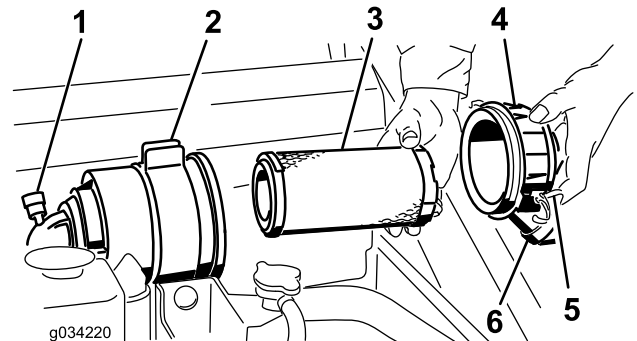

Figure 36
Important: Service the air cleaner filter only when the service indicator shows red (Figure 36). Changing the air filter before it is necessary only increases the chance of dirt entering the engine when the filter is removed.
4. Release the latches on the air cleaner and pull the air-cleaner cover off the air-cleaner body (Figure 36).
1. Gently slide the primary filter out of the air-cleaner body (Figure 36). Avoid knocking the filter into the side of the body.
3. Carefully slide the primary filter into the filter body (Figure 36). Ensure that it is fully seated by pushing on the outer rim of the filter while installing it.
4. Install the air-cleaner cover with the side indicated as UP facing up and secure the latches (Figure 36).